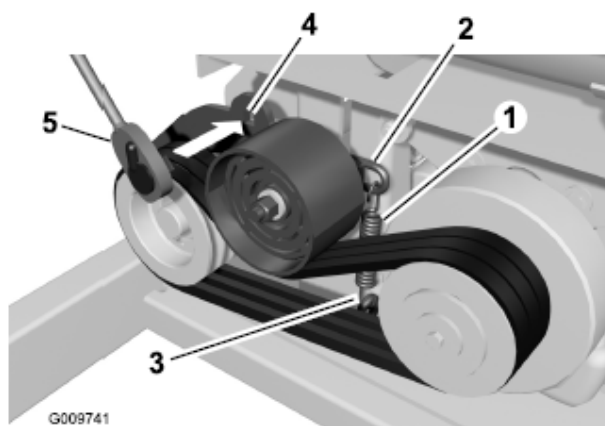
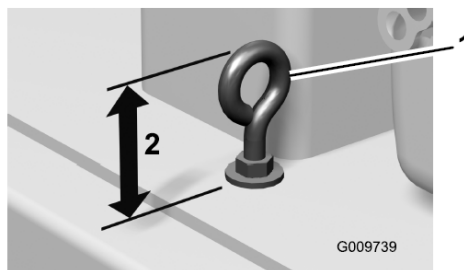

Figure 55
Figure 58
2. Check the condition of the belt (Figure 55).
- B. Insert a socket wrench into the square hole in the idler arm and rotate the wrench upward (Figure 55).
4. To increase the spring tension thus increasing the belt tension, shorten the eye bolt height by loosening the top eye bolt nut and tightening the lower nut (Figure 55 & Figure 58).